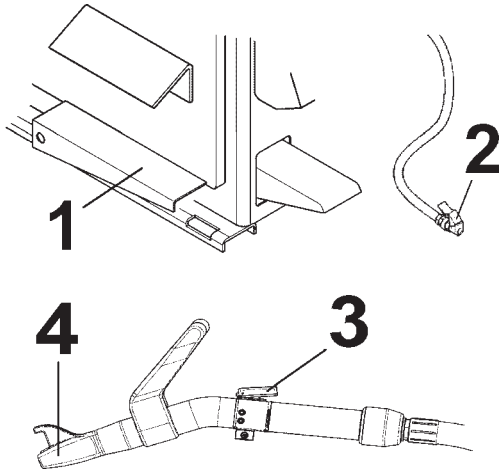

Figure 3.0-2
- G** Press bead-seater pedal on left side of the machine (5, Fig. 3.0-1 / 1, Fig. 3.0-2) halfway down: This will allow activate the tire inflation line (2).
- H** Simultaneously press bead-seater pedal (1 Fig.3.0-2) down swiftly and the button (3), to get air blast from the Nozzle (4). Air simultaneously comes out of inflator hose (2) and Nozzle (4).